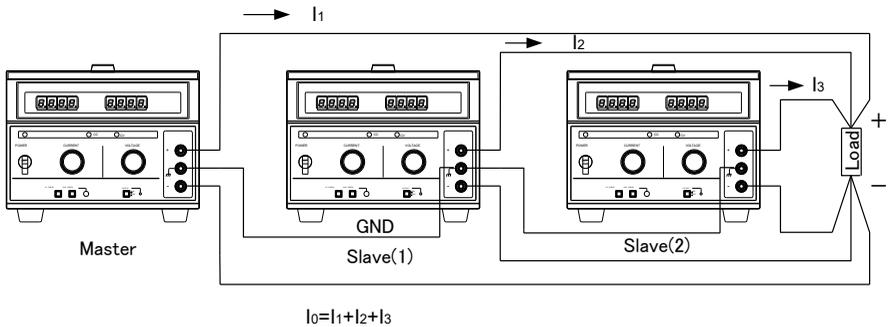

Fig. 15
- 2) Remove the short bar ⑧—⑨ of each slave unit.
- 3) Connect the master and slave units as shown Fig. 15.